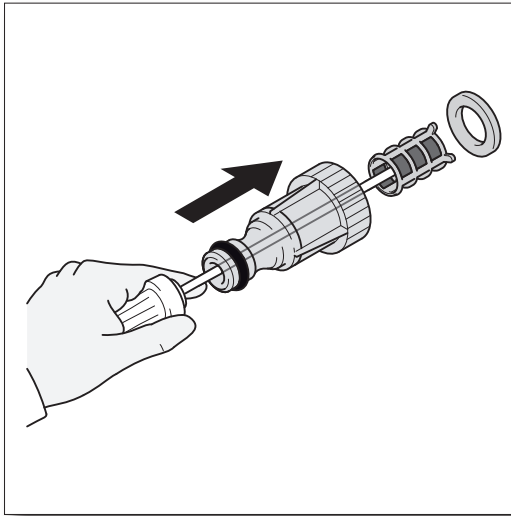

Fig. 23
- The screen inside the clear adapter should be cleaned periodically. Insert a pen or pencil in small hole at the end of the adapter. The screen filter will slide out (**Fig. 23**). Rinse it with clean water, and then place it back in the adapter..